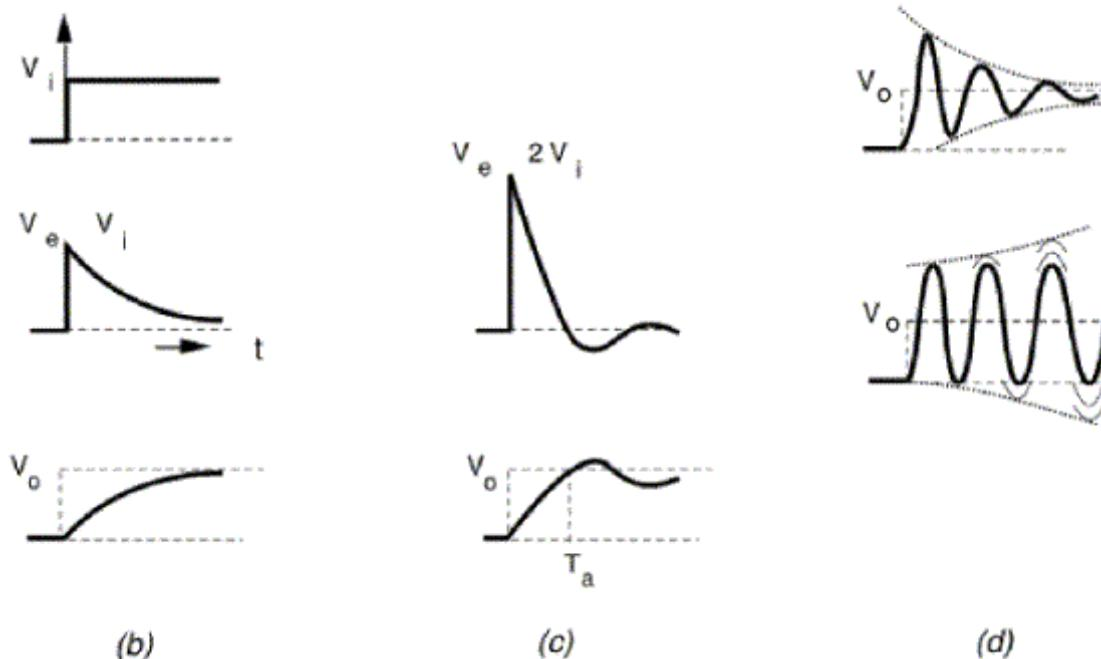

Figure 6-3: Effect of Varying Gain on Step Response
A purely electrical position control system may be represented as in Figure 6-3 (a), where the input (V_i), output (V_o) and error (V_e) are all voltages and the forward path gain (G) is shown separately, the voltage applied to the power amplifier being GV_e .
When the motor finally stops the error is reversed in sense, so that the motor reverses and the system aligns or may undershoot, but will finally settle. This is shown in Figure 6-3 (c). The gain values refer to relative gains associated with the comparator. The overall effective gain depends on many factors, including the reduction ratio in the output system.
If the gain is increased further, the system may take several oscillations to settle, as at Figure 6-3 (d). If there are two delays in the system the result may be a steady oscillation at the output, or even an increasing oscillation. Systems with the characteristics of Figure 6-3 (d) are useless for control purposes.
An additional effect that must be considered is the magnitude of the input signal. In the hypothetical example described above, doubling the gain speeds up the response. However if V_i increases, the power amplifier drive ($2V_i$) also increases and the amplifier may limit and the motor may not be able to move fast enough to give the response at Figure 6-3 (c) for an increased V_i .